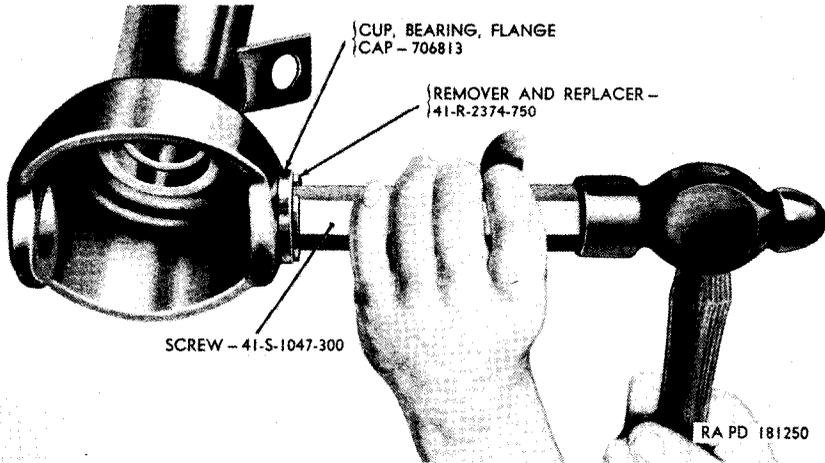

Figure 114. Installing bearing cup in front axle steering knuckle.
- (5) Install the steering knuckle flange cap bearing cups (M and AA, fig. 95) with remover and replacer 41-R-2374-750 and screw 41-S-1047-300 (fig. 114).